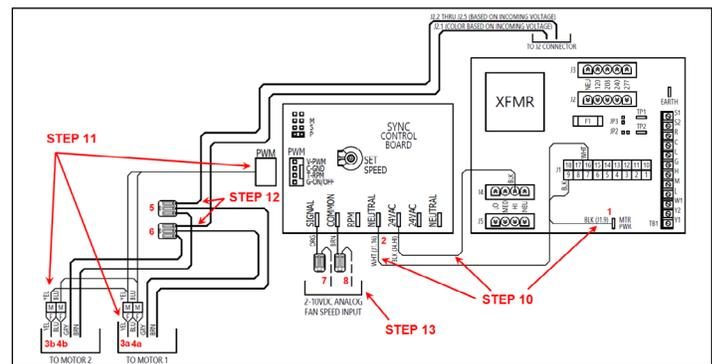

Figure 77 – Sync PWM Electrical Connections
#### CONNECT POWER AND FAN RELAY TO SYNC PWM (SEE FIGURE 77)
#### CONNECT MOTOR CONTROL SIGNAL TO SYNC PWM (SEE FIGURE 77)
#### CONNECT MOTOR POWER WIRES TO FRBii (SEE FIGURE 77)
#### CONNECT 2-10VDC SIGNAL WIRES TO SYNC PWM (SEE FIGURE 77)
- Ensure that the new wires have been connected as specified in Figure 77.